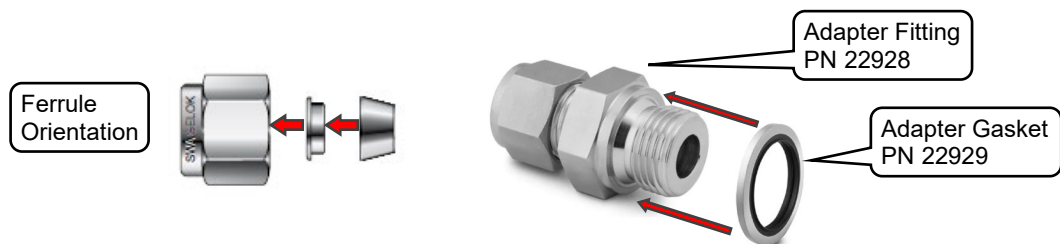
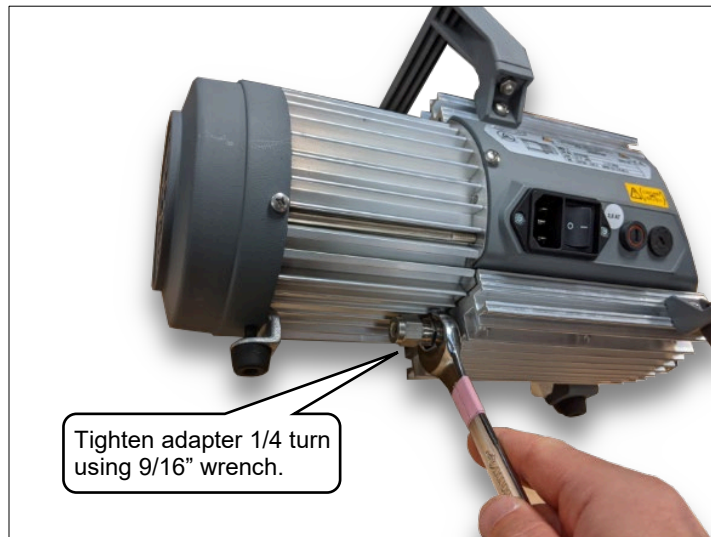

Figure 73: Adapter Assembly
Figure 74: Exhaust Adapter Fitting Installation
4. Slide the adapter gasket PN 22929 onto the adapter fitting PN 22928 (Figure 73), screw it into the pump exhaust port, and then tighten it 1/4 turn using a 9/16” wrench Figure 74).